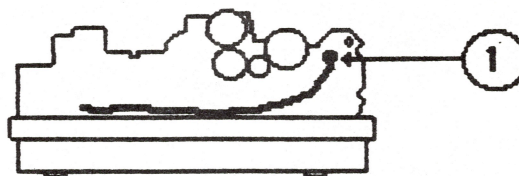

FIGURE 10
4. Replace the ground wire at the right end of the chassis (see Figure 10, #1).